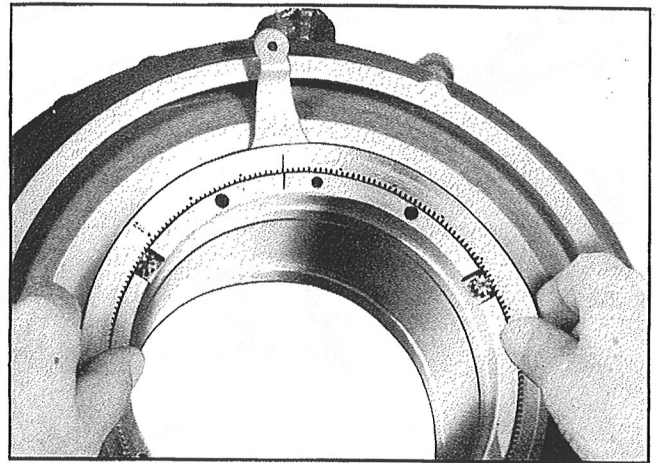

Figure 172—Installation of Control Gear and Lever, Model A632S-C1
*Step 32.*—Line up the indexing marks in the adapter ring with the control lever. Press the lever down so that the teeth of the lever mate with the teeth of the pinion gears, as shown in Figure 172.